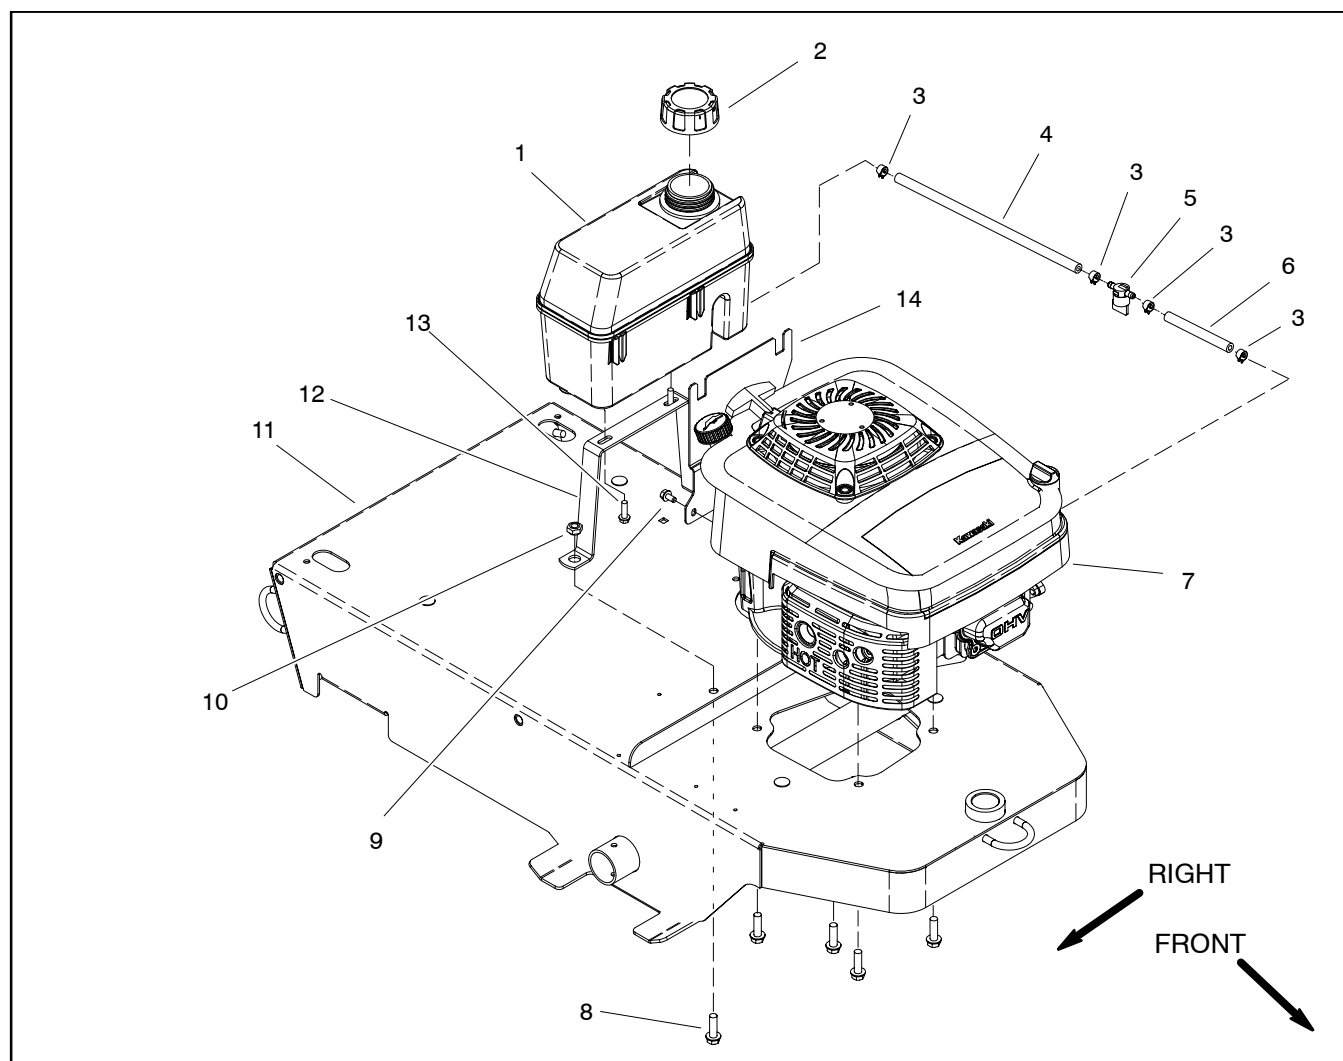

Figure 4
Fuel Tank Removal (Fig. 4)
6. Remove fuel tank using Figure 4 as a guide. If fuel tank bracket (item 14) removal is necessary, remove ground wire from bracket.